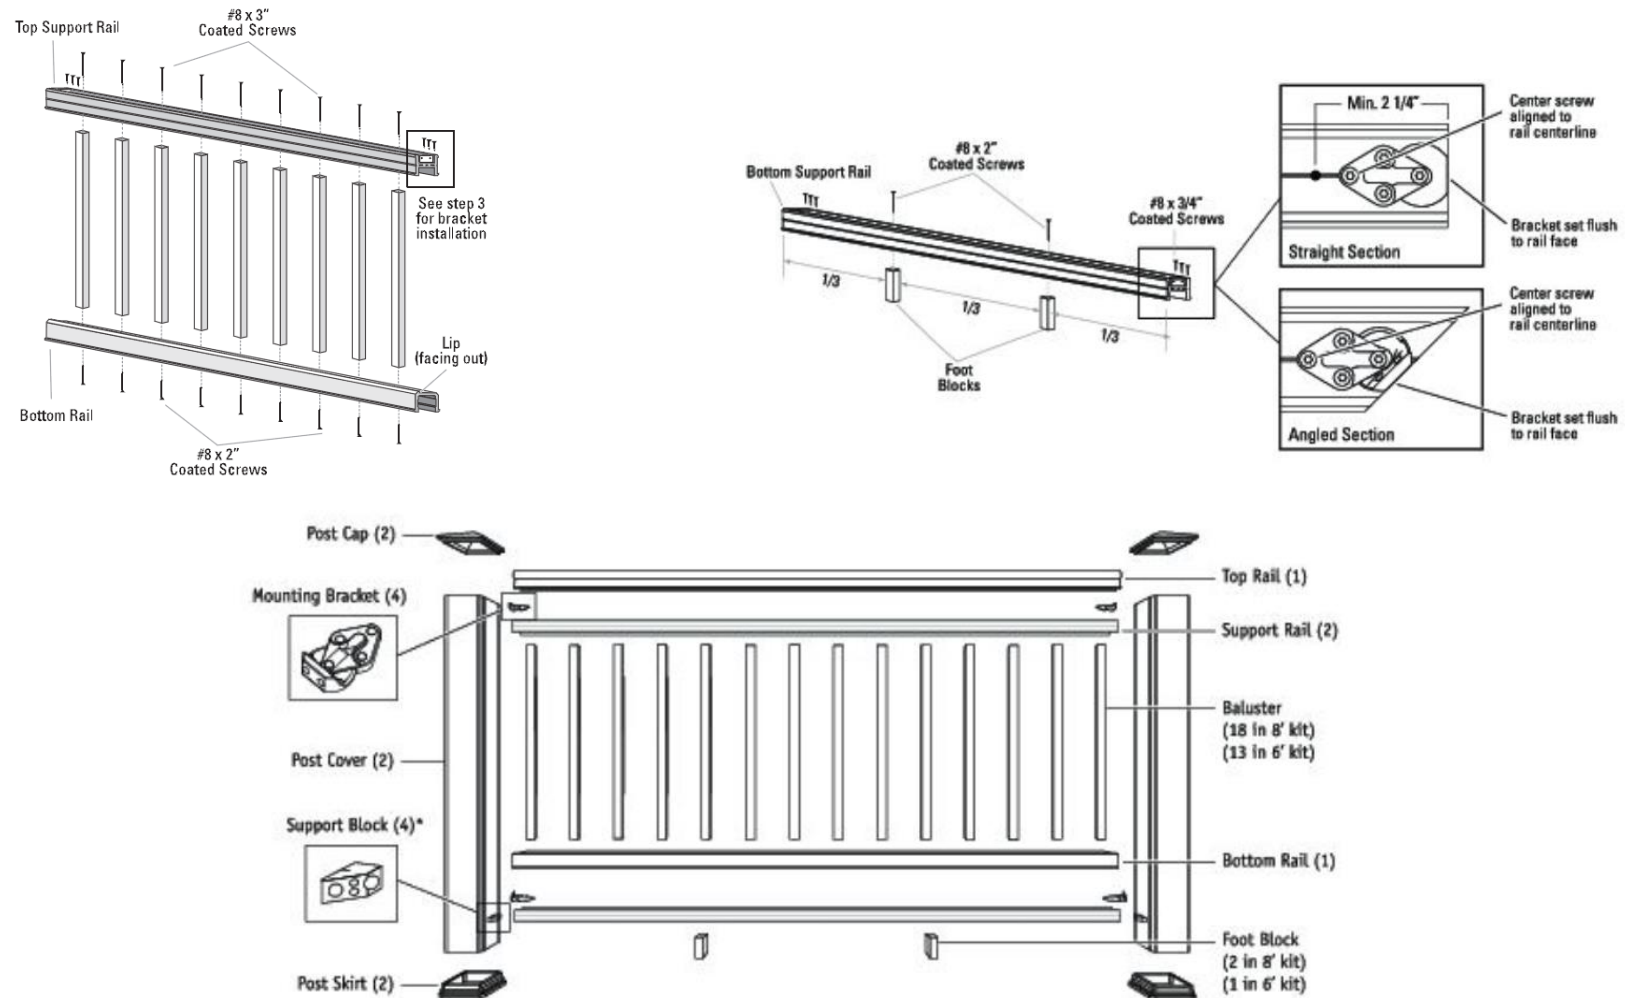

Figure 14 – TimberTech® RadianceRail® and AZEK Trademark, Premier, and Reserve
5.1. Foot blocks are a section of nominal 1.2" square extruded composite picket with an expanded PVC core to facilitate fastening. Foot blocks shall be installed at approximate 1/3 intervals for rails over six feet in length or at mid-span for rails less than six feet in length of the bottom guardrail between the deck surface and the guardrail. See Table 3 and Figures 14 through 19.